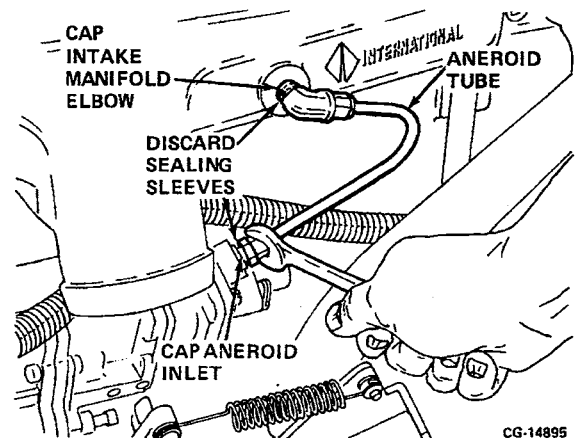

Figure 11.59. Remove Aneroid Tube
4. Remove the aneroid tube as follows: (Refer to Figure 11.59)